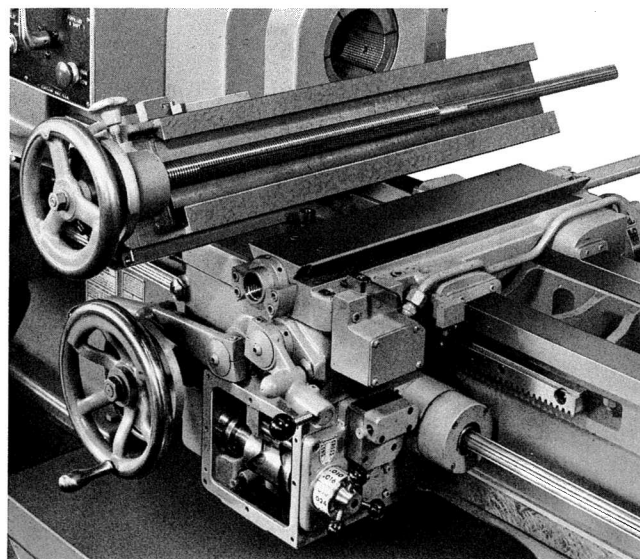

FIG. 7
2. To eliminate backlash between the cross slide screw and nut, loosen the locking screws holding the bronze adjustment nut. (Figure 7) Turn the adjustment nut until the backlash is eliminated, and then retighten the locking screws.